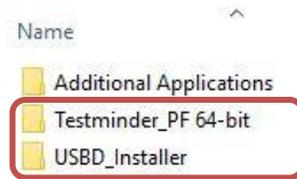
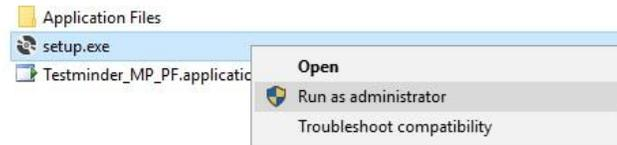

Figure 9 TestMinder Installer Folders
Figure 25 TestMinder Setup Icon
10. Browse the CD/USB provided with the tester and locate the folders with the installers as shown in (Figure 9).
1. Browse the CD/USB provided with the tester and locate the folders with the installers (Figure 9), depending on your version open the folder “TestMinder_PF 64-bit” or “TestMinder_P 64-bit” and right click on the Setup icon and choose “Run as Administrator” (Figure 25).